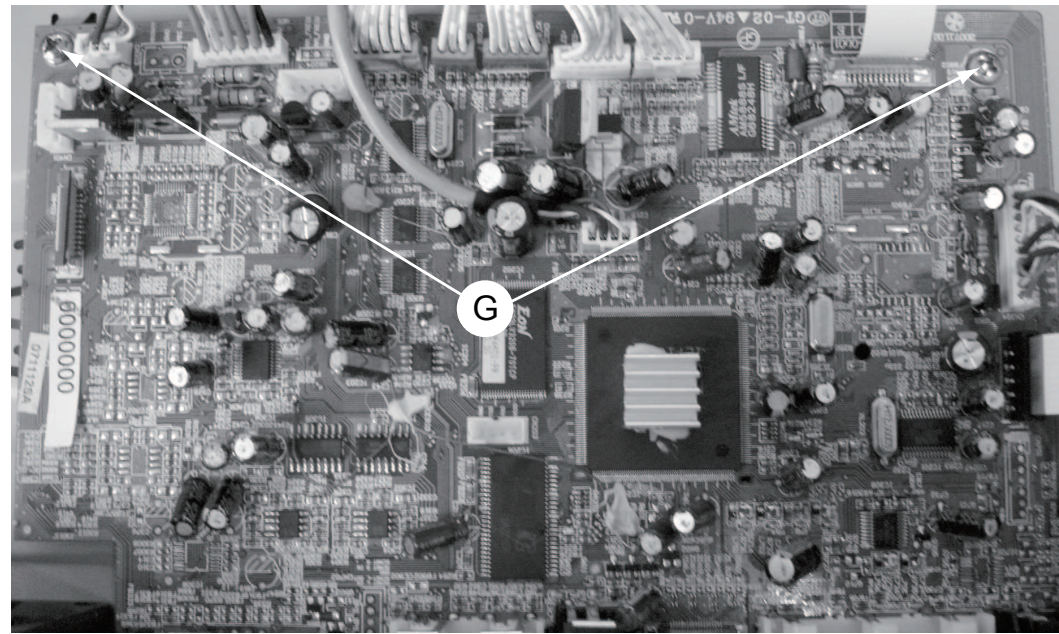

Figure 10
- 1) Loosen 2 screws " G " on the top of main board as shown in figure10